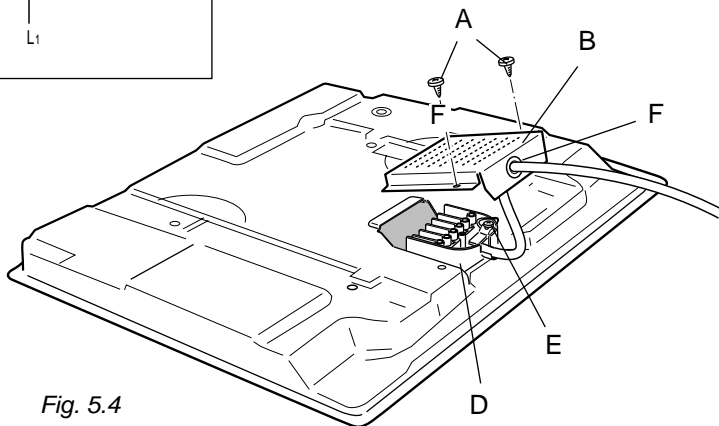

Fig. 5.4
- ✓ Unscrew screws "A" and remove protection "B" (Fig. 5.4)
- ✓ Unscrew cable clamp "E" (Fig. 5.4)